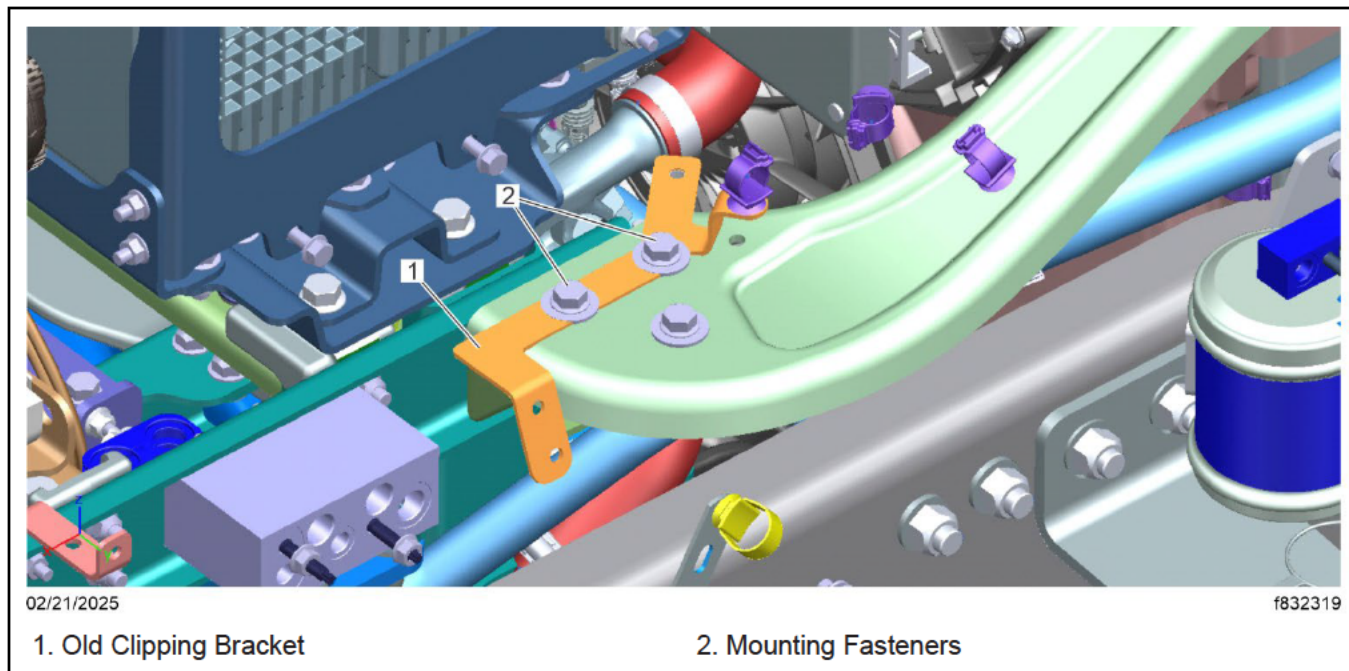

Fig. 4, Removing the Old Clipping Bracket
8. Remove the mounting bolts from the discharge line clipping bracket. See Fig. 4.
9. Remove the old clipping bracket. See Fig. 4.